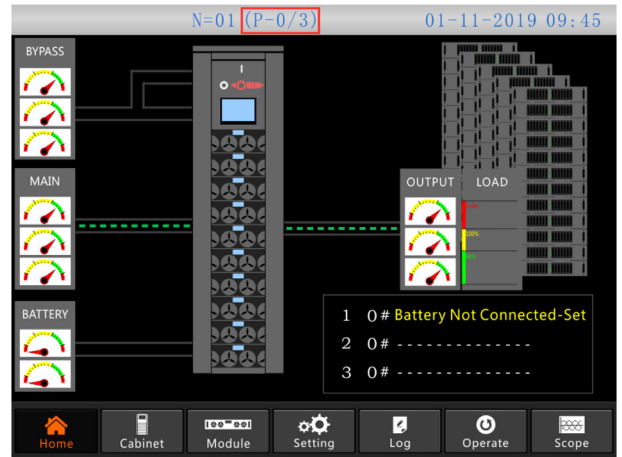

Fig. 74. Start screen of the parallel system.
- b. If there are 3 UPSs in parallel: the first should appear as (P-0/3), the second (P-1/3) and the third (P-2/3), as shown in Fig. 74.